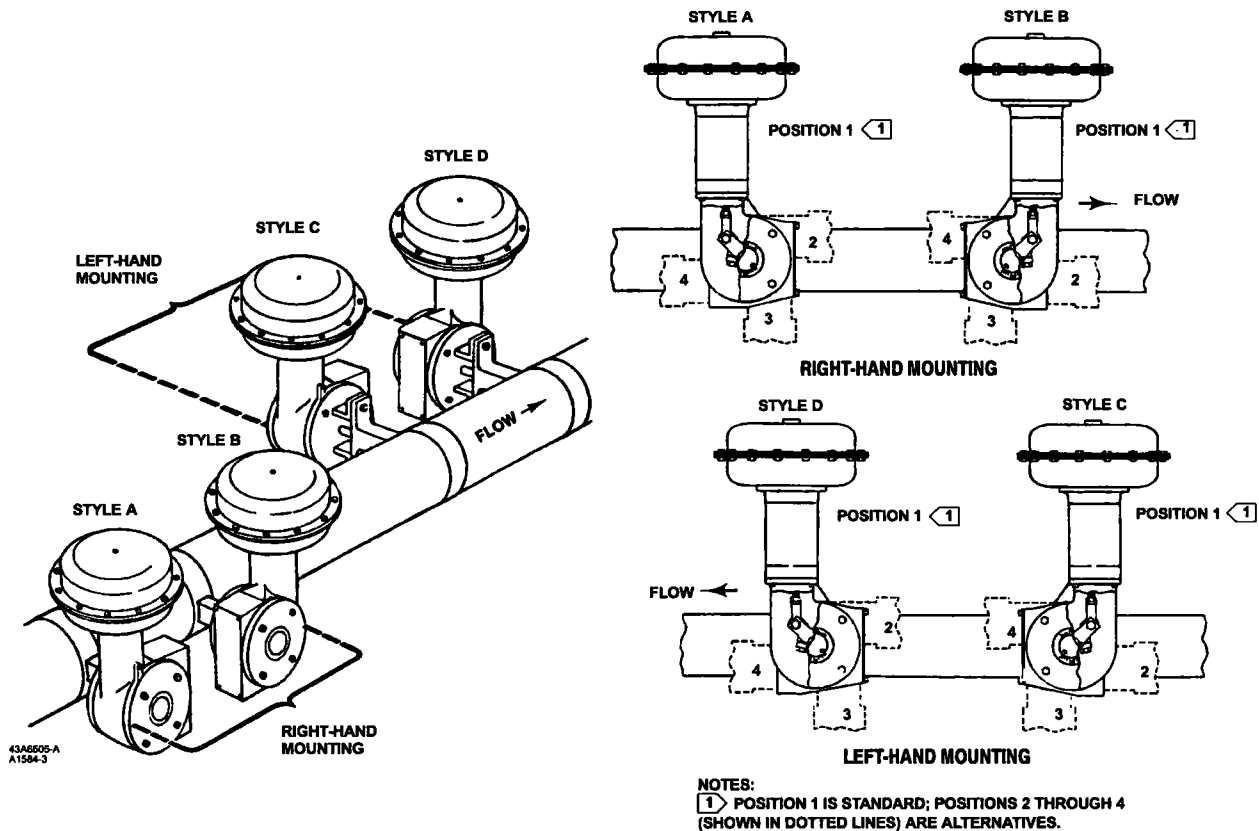
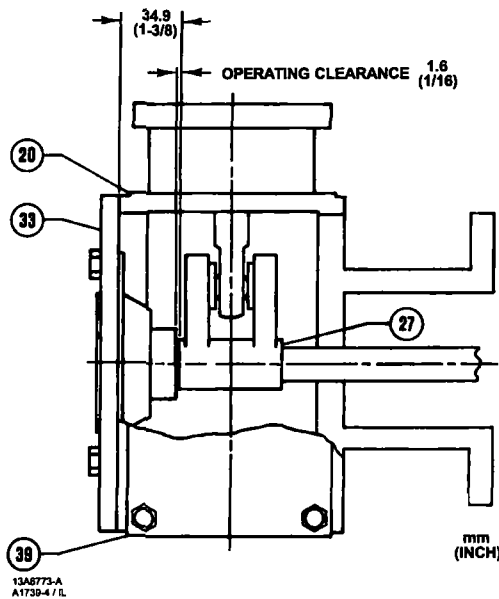

Figure 3. Mounting Styles and Positions for the Type 1051 and 1052 Actuator
Figure 4. Lever Operating Clearance
1. Unscrew cap screws and washers (keys 34 and 63), and remove cover (key 33).
2. Refer to figure 3 for available mounting styles and positions. When mounting on a Vee-Ball Design V150, V200 or V300 valve, check the valve manual to determine if it is Series B. The actuator is normally positioned vertically with the valve in a horizontal pipeline (see figure 4).
flow direction in all valve applications **before** installing the valve in the pipeline (see figure 4). Refer to the appropriate valve bulletin.